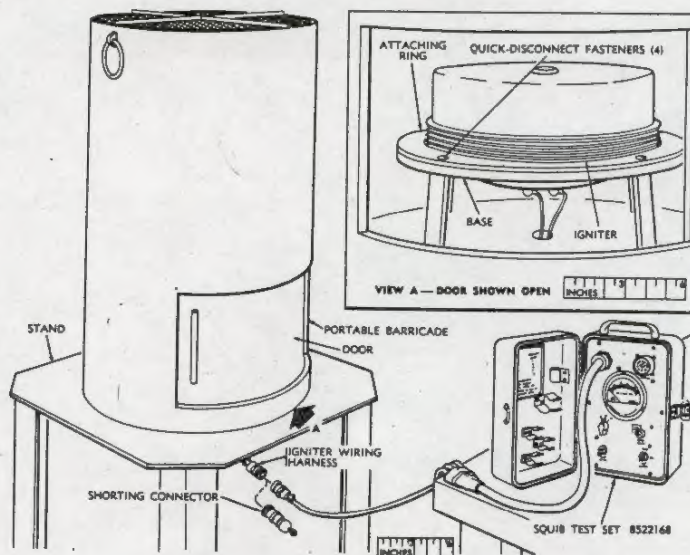

Figure 3-23. Test of rocket-motor igniter..
- (9) Using the portable barricade and squib test set, inspect and perform a continuity check of the igniters (fig 3-23). Remove the plastic shipping plugs and gaskets from the end of each rocket motor in the rocket-motor cluster and immediately install the igniters.